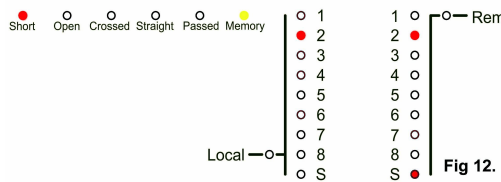

Fig 12.
c) A short to SCREEN, this may be indicated by one, or both the screen LED's being ON in conjunction with another pair of LED's (Fig12).